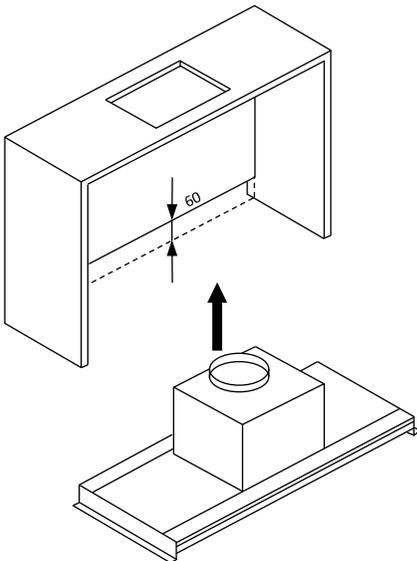

Fig 5
3. At the back of the cupboard cut 60mm from the bottom of the panel to fit the Donizetti (Fig 5).